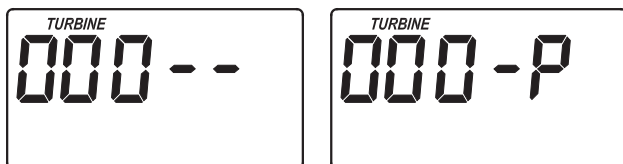

FIG. 20
1. Press and hold the SELECT button until one of the screens in Figure 20 is displayed. Once in this display, press the SELECT button once and one of the two displays in Figure 21 is shown.